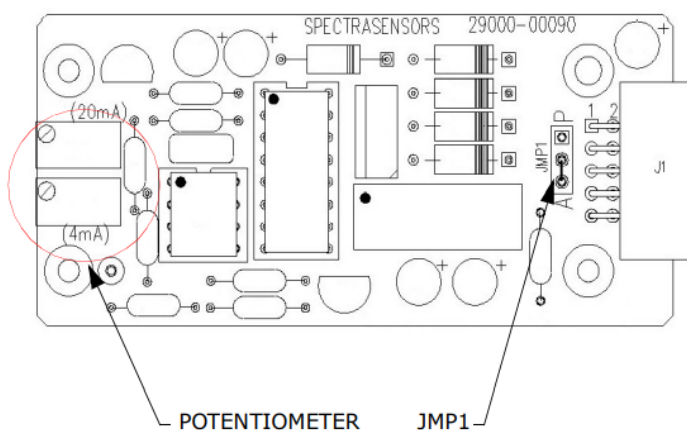

Figure 27. Analyzer 4-20 mA board
4. Remove the jumper (JMP1), shown in Figure 27 below, and connect the center pin to point “A”.